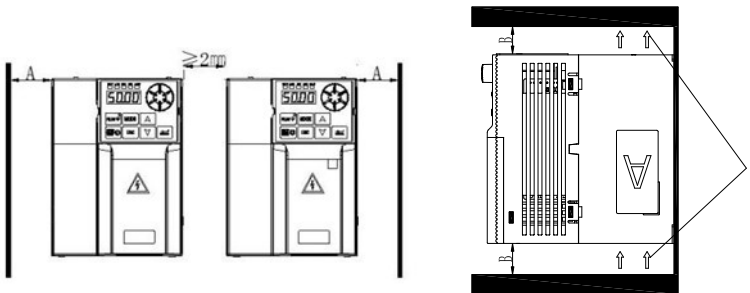

Figure 4.3 Spacing requirements for multiple installations
- (3) When multiple units are installed, they are usually installed side by side. The installation spacing requirements are shown in Figure 4.3 .